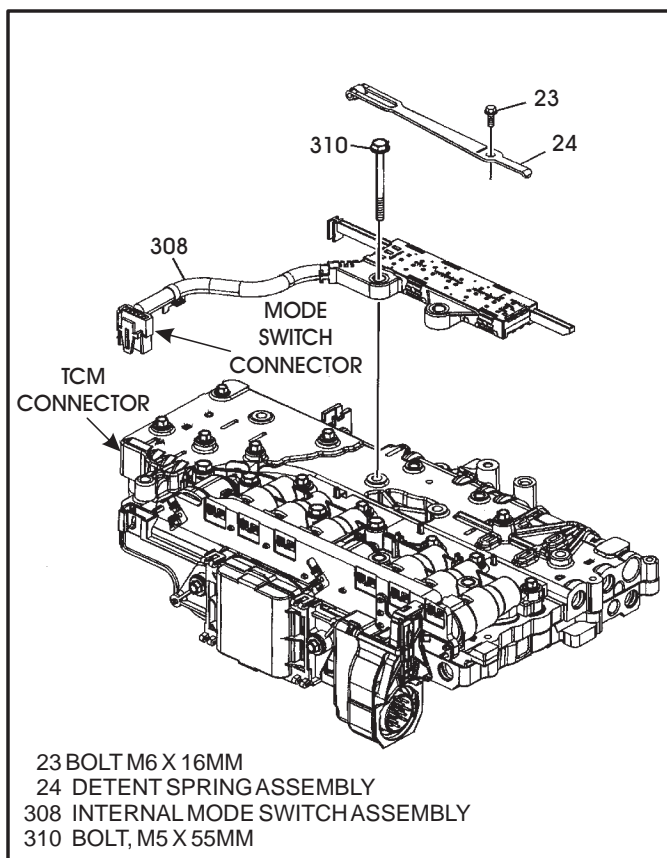

Figure 137
2. Disconnect Mode Switch electrical connector from the solenoid body/TCM, as shown in Figure 137.
3. Remove the internal mode switch assembly, as shown in Figure 137.